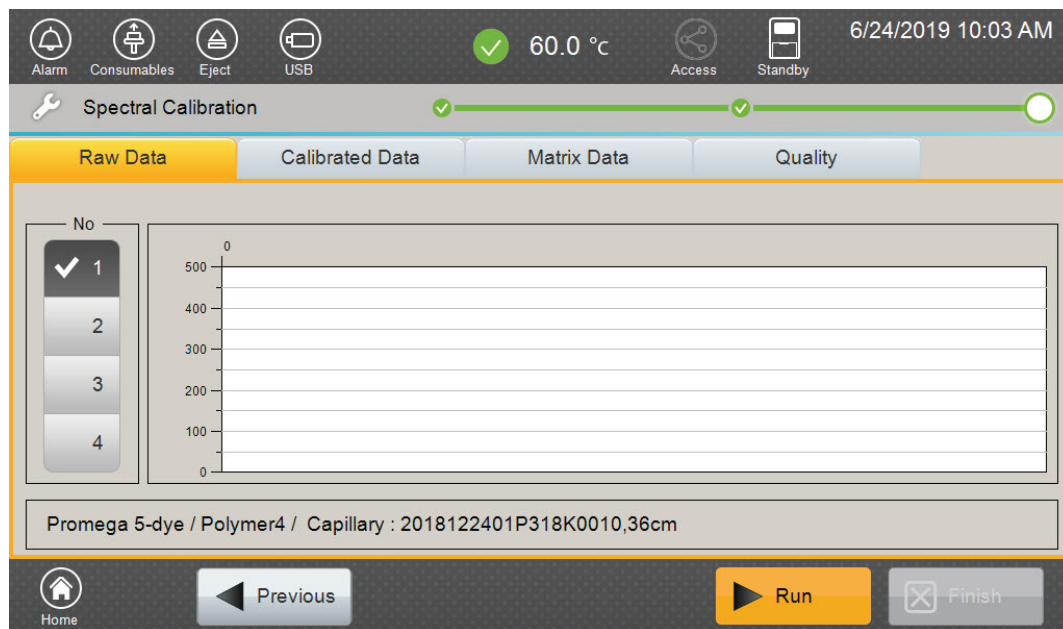

Figure 37. 'Spectral Calibration' screen.
- After the autosampler has returned to its home position, the 'Spectral Calibration' screen will automatically be displayed (Figure 37). Select **Run** to start the spectral calibration.